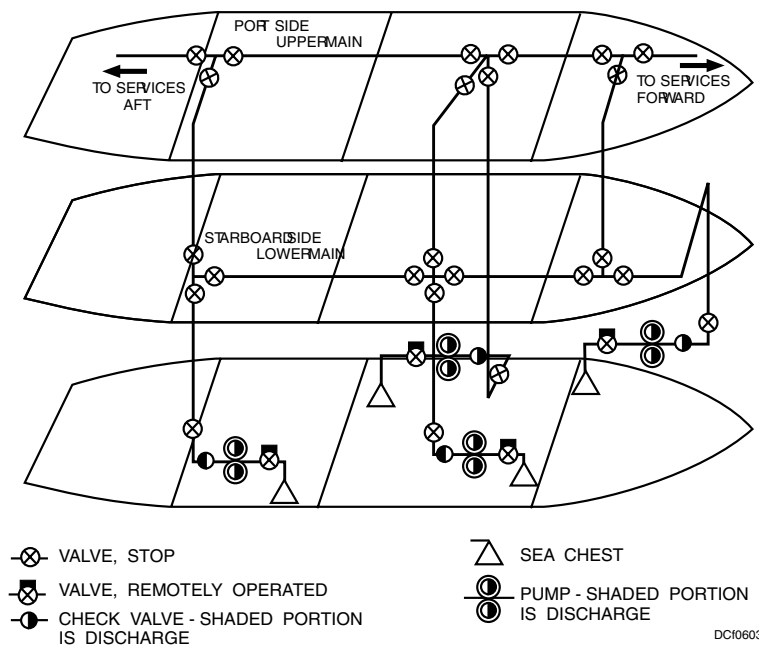

Figure 6-3. Vertical offset loop firemain system.
3. The vertical offset loop firemain system shown in figure 6-3 consists of two single piping runs, installed fore-and-aft in an oblique (that is, angled) plane, separated both vertically and athwartship, connected at the ends to form a loop. The lower section of the firemain is located as low in the ship as practical on one side, and the upper section is located on the damage control deck on the opposite side of the ship. Athwartship cross-connections are usually provided at each pump riser.